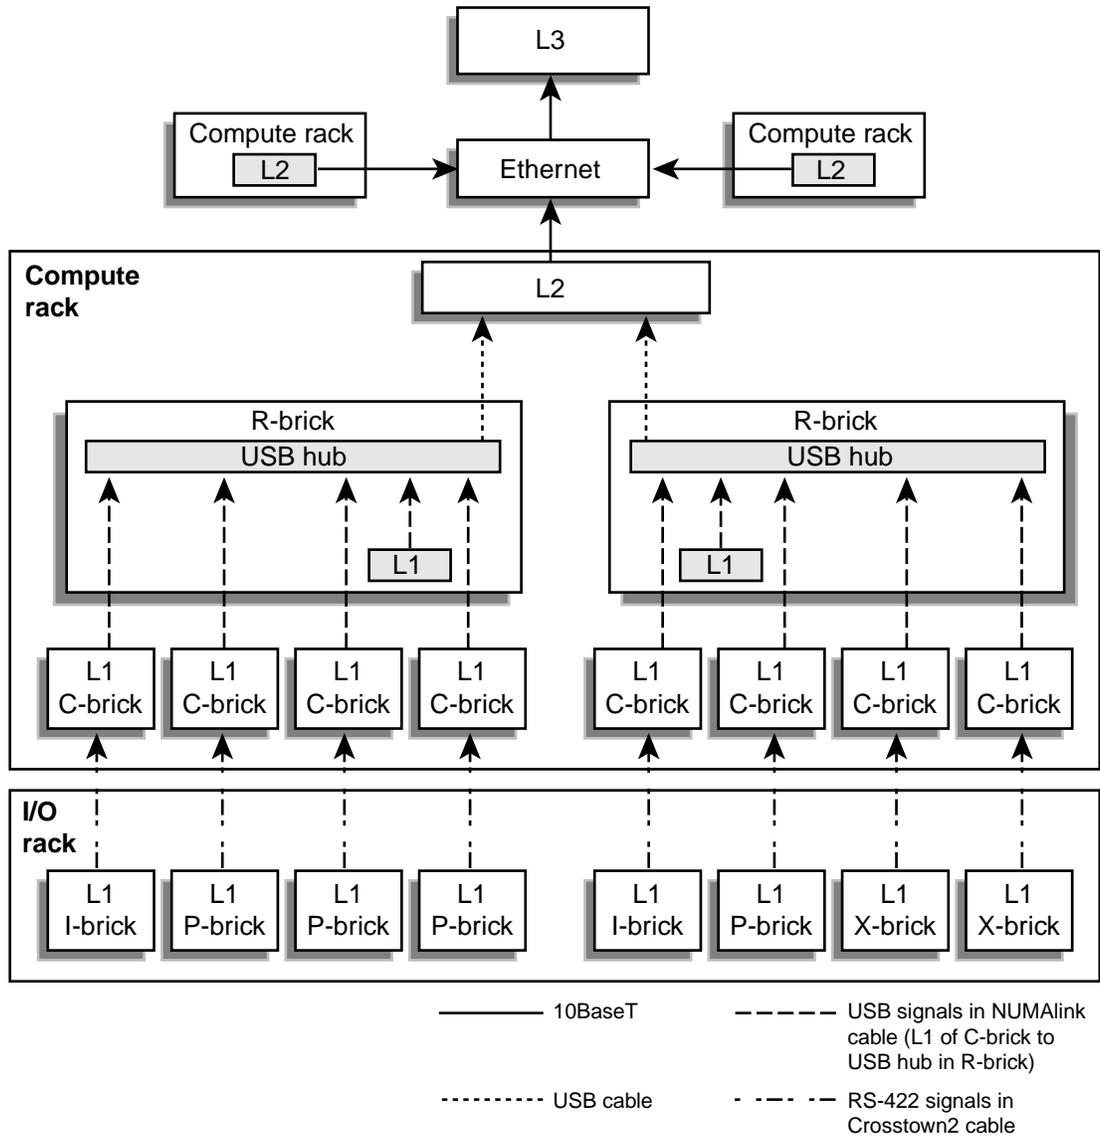

Figure 3-1 Controller Network
- In an SGI Origin 3200 server system with two C-bricks and no R-brick, the L1 controller of a C-brick communicates with the L1 controller of the other C-brick (not shown in Figure 3-1).
Figure 3-1 diagrams some of the interactions between the L1, L2, and L3 controllers.